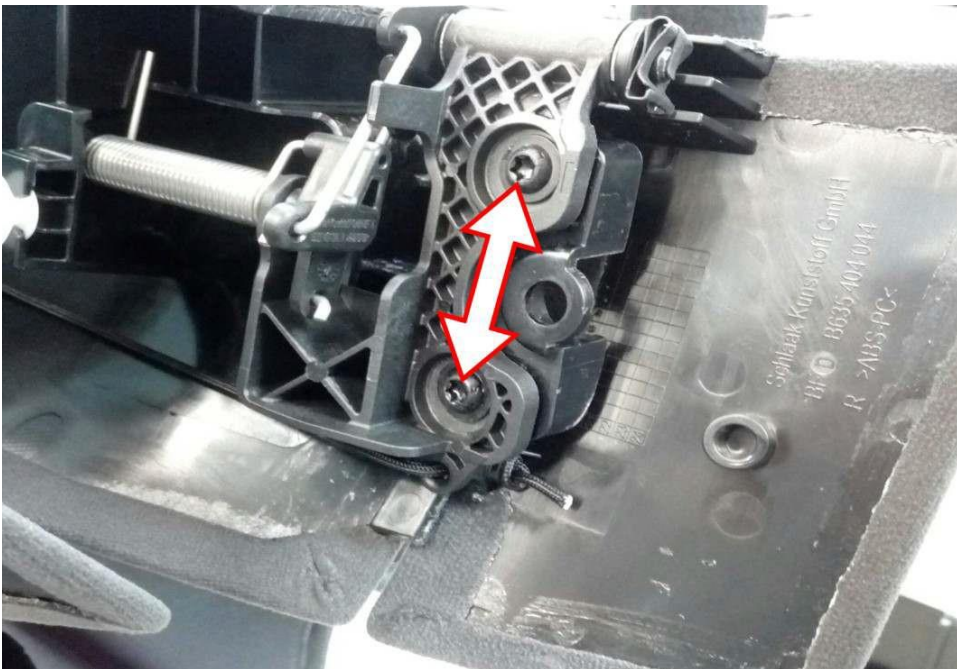

Figure 6
5) Referring to Figure 6- Remove the two flap assembly screws shown, With care remove the assembly away from the header trim- NOTE: Discard the screws